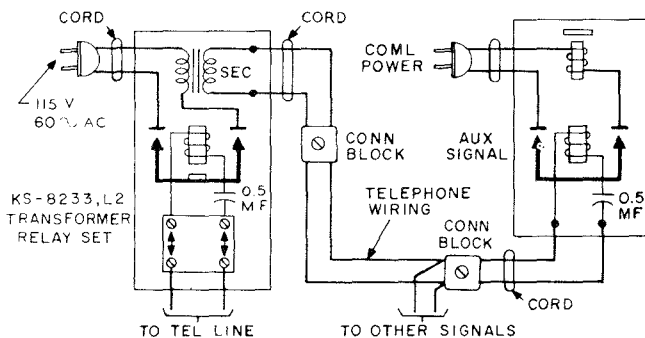

Fig. 4—KS-8233, List 2 Transformer Relay Set Connections
2.04 The KS-8233, List 2 Transformer Relay Set has been used to connect several signals to one telephone line, as shown in Fig. 4, and may be encountered in some existing installations.